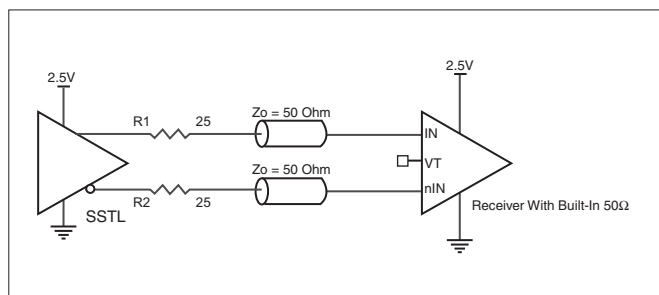

FIGURE 1E. HiPerClockS IN/nIN INPUT WITH BUILT-IN 50Ω DRIVEN BY AN SSTL DRIVER
- Power Dissipation at built-in terminations: Assume the input is driven by a 2.5V SSTL driver as shown in Figure 1E and estimated approximately 1.75V drop across IN and nIN.